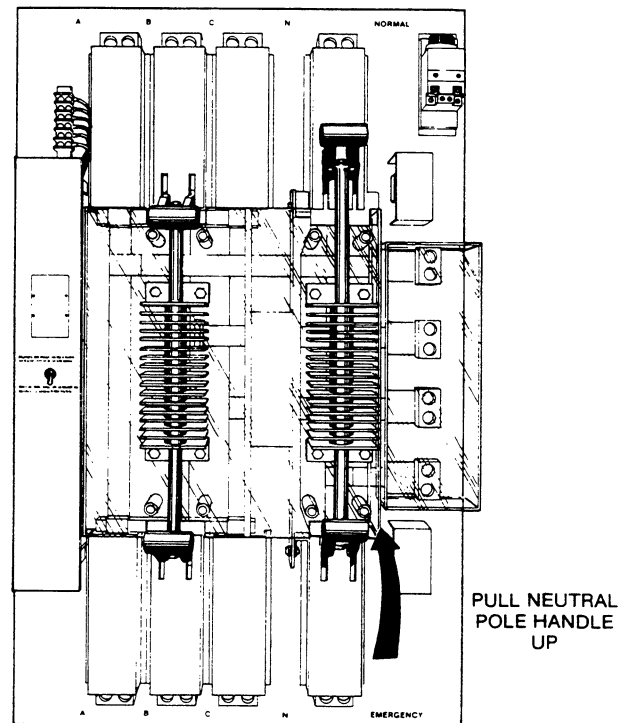

FIGURE 17.
2. Pull the lower neutral pole handle all the way up, as shown in Figure 17, connecting the load neutral to the neutral of the normal power source and disconnecting it from the emergency power source.